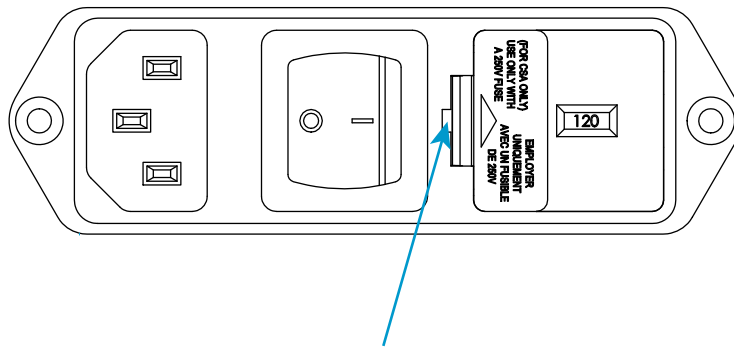

Figure 5. Prying out the fuse holder
1. Ensure that the power switch is in the Off (0) position and disconnect the power cable from the power source. Verify that no LEDs are illuminated on the indicator panel.
2. Insert a small flat-head screwdriver into the slot indicated in Figure 5 on page 37 and pry out the fuse holder.